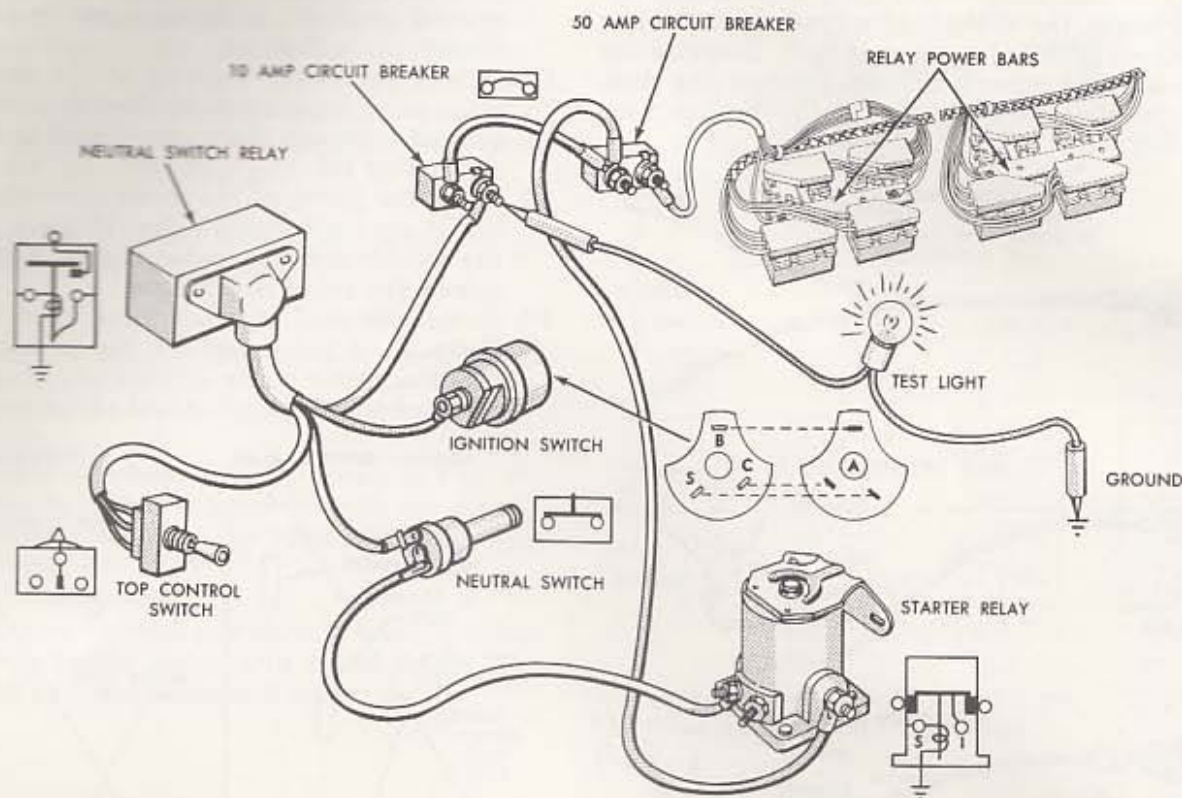

Fig. 29—Top Control Switch and Relay Power Circuits
- 1-2. Check for power in that part of the circuit from the top control switch to the 50-amp circuit breaker. If there is power at the top control switch (Fig. 29), go to Test 1-3.